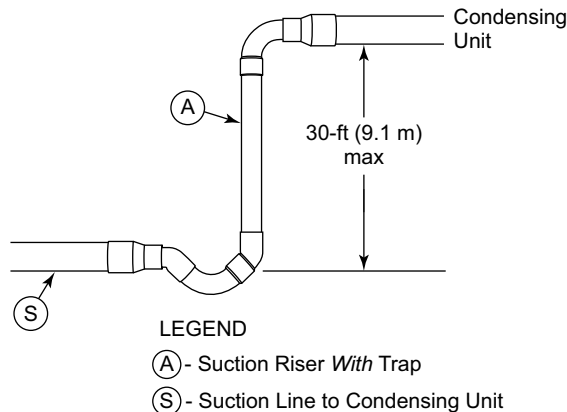

Fig. 5 — Suction Line Piping — Speed Riser
- b. See Fig. 5 for speed riser diagram.
See Fig. 5 for speed riser reference, where tube S is the horizontal line size and tube A is the reduced diameter riser size.